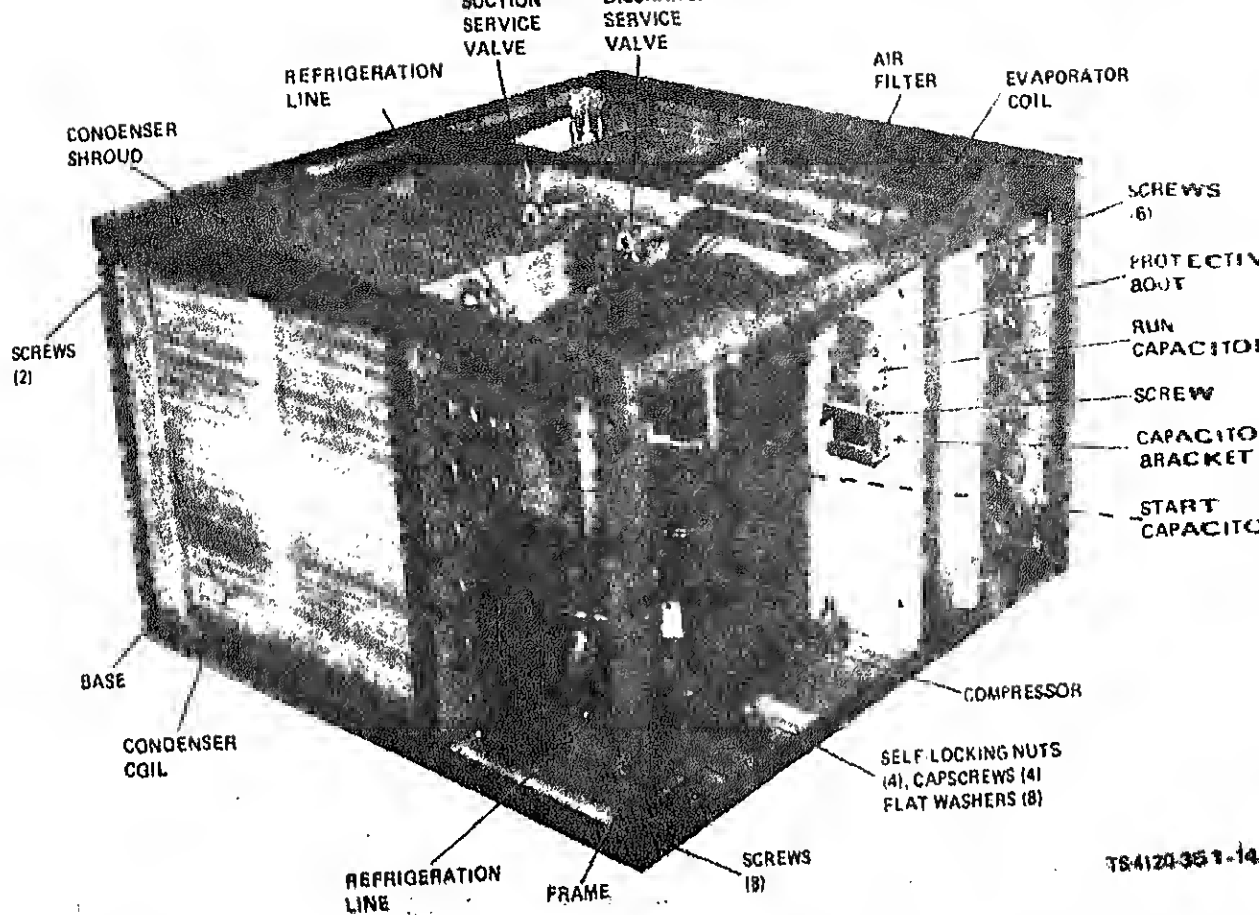

Figure 4-6. Service valves, capacitor, compressor, receiver, and liquid-moisture indicator, removal and installation
(2) Remove protective boot from start capacitor (fig. 4-6).
(3) Tag and disconnect electrical leads from start capacitor.
(2) Tag and disconnect electrical leads from run capacitor (fig. 4-6).
(2) Scrub the external portion of the evaporator coil (fig. 4-6) with a stiff bristle brush to remove scale and corrosion. Take care not to damage fins. Use compressed air to blow out loose material.